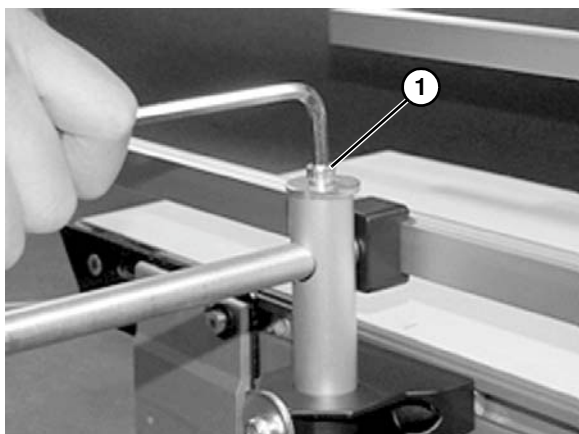

Figure 22
6. Adjust rail width with top screw (**Figure 22, item 1**).